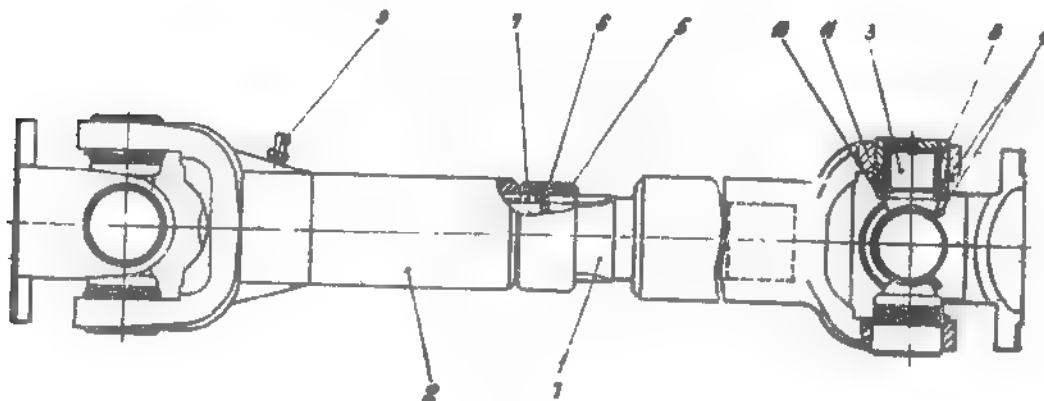
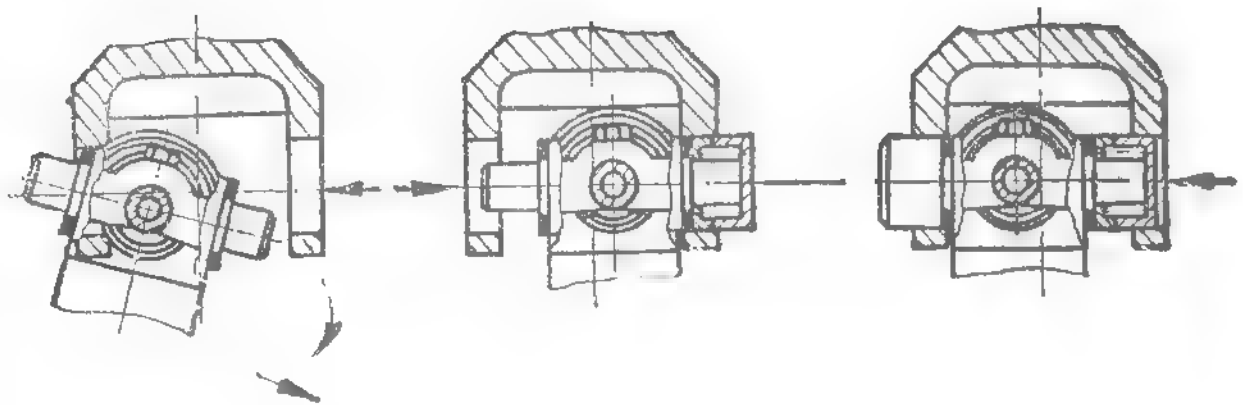

Fig. 4.110. LONGITUDINAL PROPELLER SHAFT
Fig. 4.112. DISMANTLING NEEDLE BEARINGS SPIDERS
For longitudinal propeller shaft this operation is performed on both shaft ends. (see Fig. 4.110).
- Remove snap rings (4) - see Fig. 4.110 - from spider journals, using special S 119 pliers or a hammer and drift.
- Extract needle bearings (7) from bores in yoke and flange as follows: yoke or flange being fixed in a bench vice, press with S 120 extracting device on a needle bearing until opposite needle bearing is free of bore. Then press on spider to make free the other bearing.
- Repeat operation with the other two needle bearings (see Fig. 4.112).